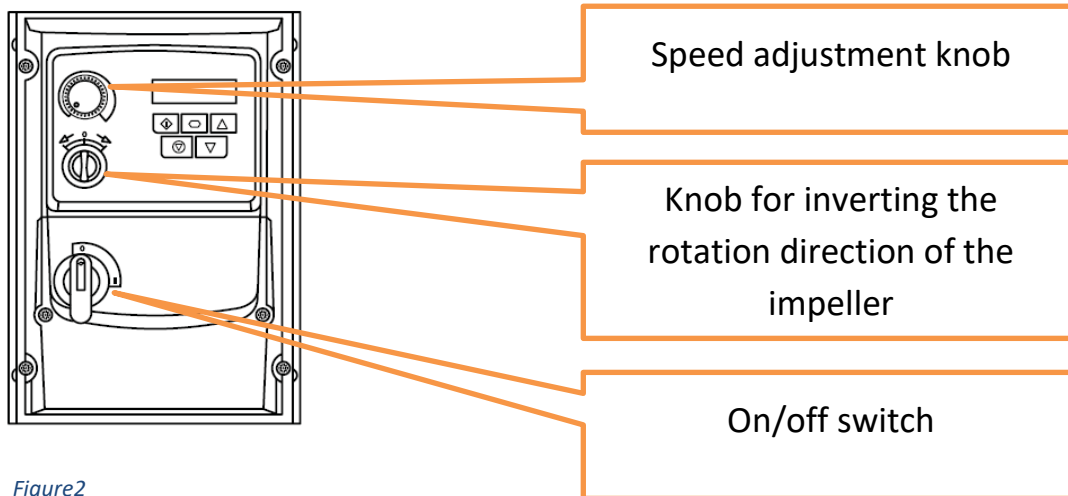

Figure2
- Check the correct rotation of the impeller; the impeller has an arrow indicating the correct direction. To reverse the rotation, turn the direction knob (see figure 2) on the inverter in the opposite direction. If the inverter knob is positioned towards the centre, the unit does not operate. Once the direction of the knob is set for the correct rotation, apply a label-type identifier to fix the correct operating position.